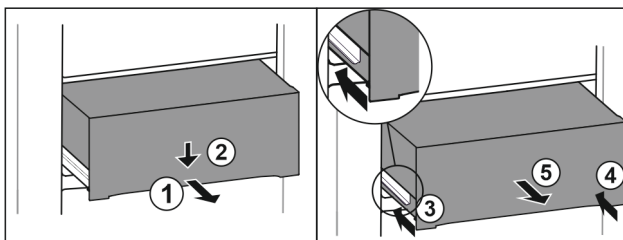

Fig. 156
- Pull out drawer half-way. Fig. 156 (1)
- Push the drawer down at the front. Fig. 156 (2)
- Push the left rail in by about 2 cm. Fig. 156 (3)
- Push the right rail in by about 2 cm. Fig. 156 (4)
- Remove drawer to the front. Fig. 156 (5)